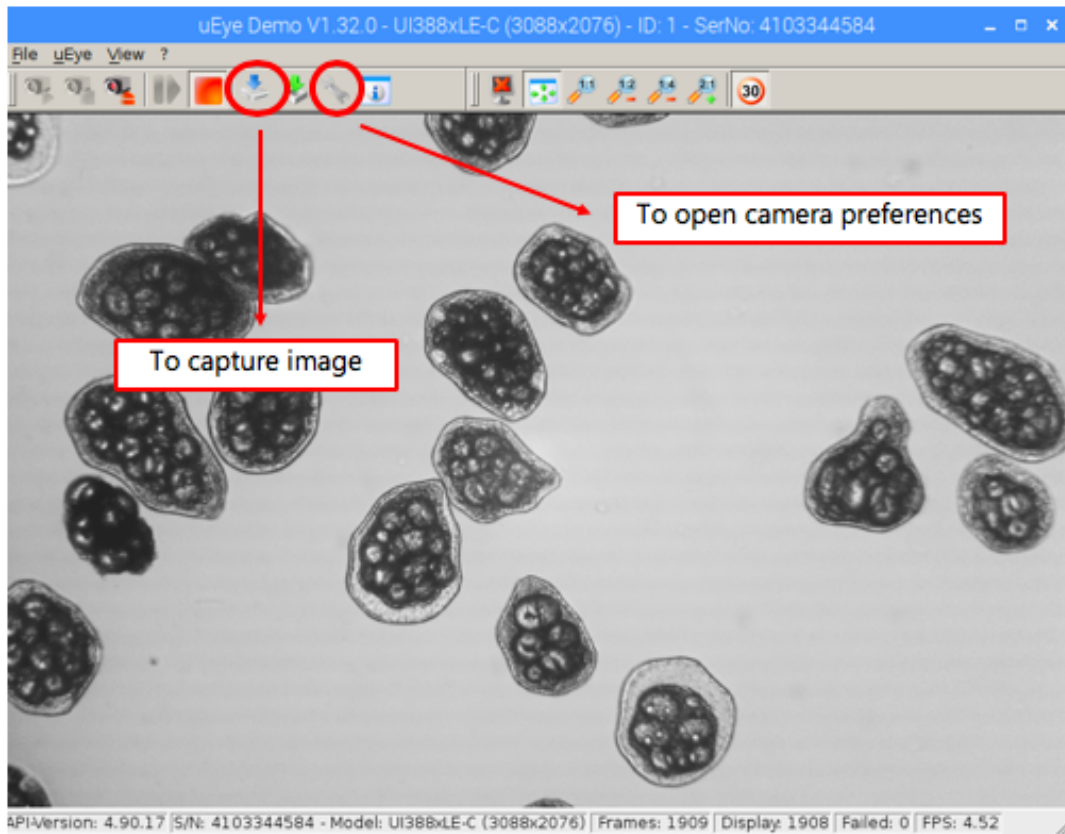

Figure 8: Ueye interface displaying navy bean starch cells on the live camera
4. To adjust the image preferences, click the **wrench** as shown in Figure 8.
6. To save an image, click the floppy disk icon indicated in Figure 8.